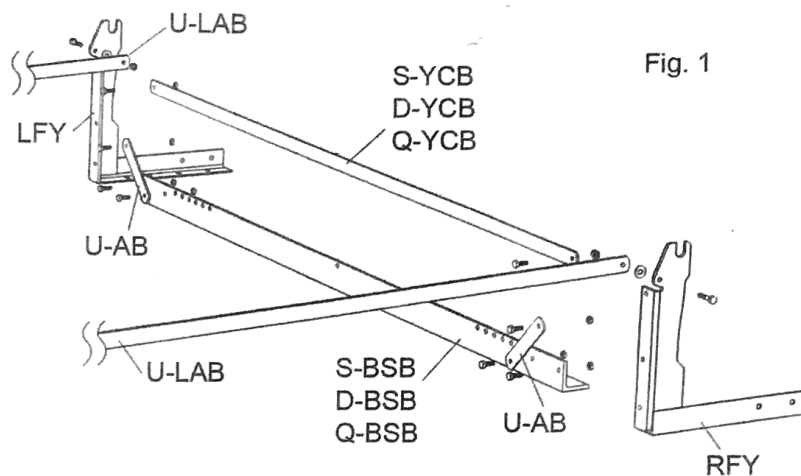

Fig. 1
4. Attach leg actuator bars (U-LAB) to floor yokes using 3/4" bolts (UMB75), nylon washers (UMWNY) and nylon insert locknuts (UMNNYL). Hand-tighten until later. See Figures 1 & 2.